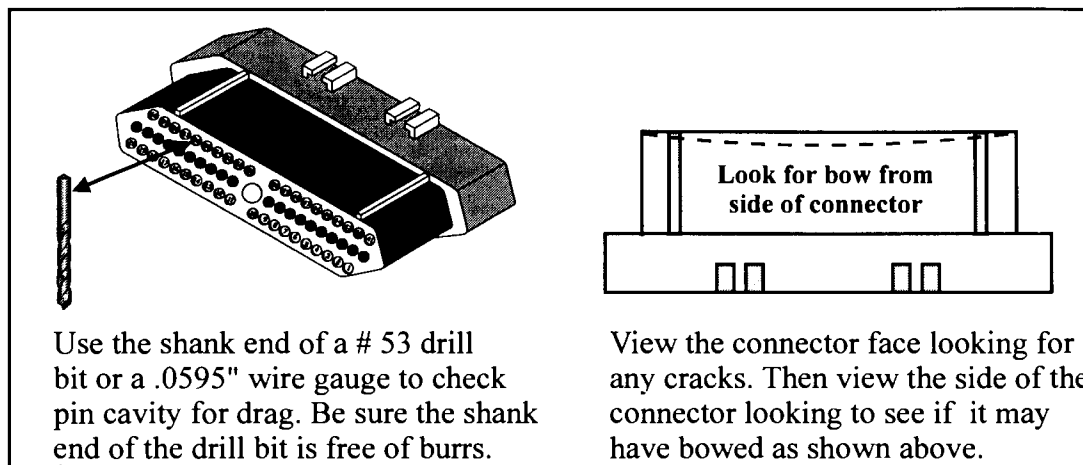

Figure 12
- Inspect the 60 way controller connector for corrosion, distortion and/or cracks in the connector, pushed back or spread pin cavities. Particularly the power and ground wire pins (See Figure 12).
- Unplug the 60 way connector and check for pin drag at the # 56 cavity using the shank end of a # 53 drill bit or .0595" wire gauge as shown in Figure 12. Repair if necessary.